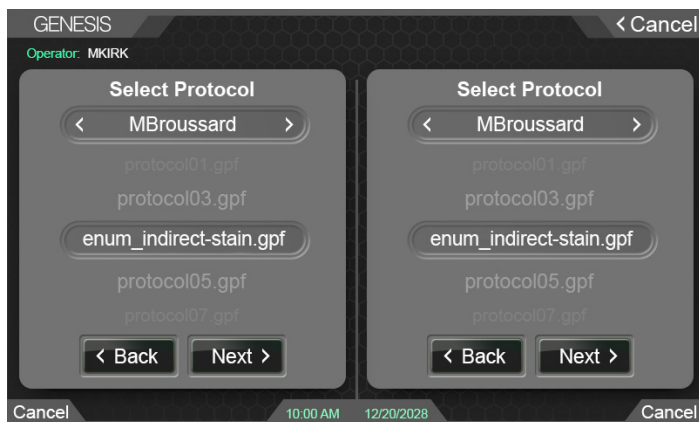

Fig. 20. After a successful Self Test, the protocols can be selected.
10. When the Self Test is complete, select Enumeration - Indirect Stain from the protocol drop-down list (Figure 20).